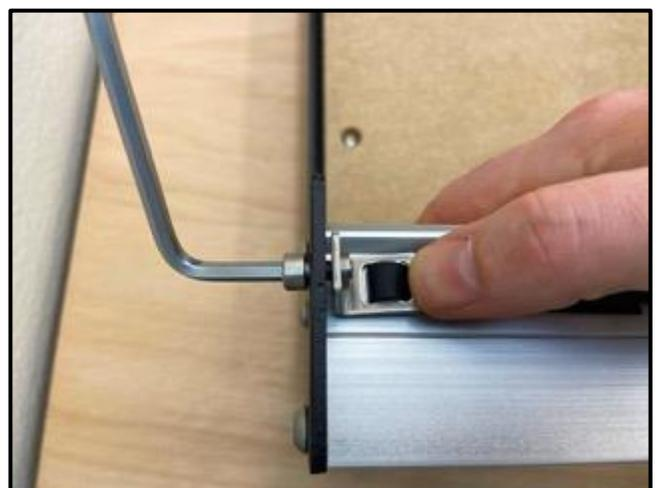

Figure 5-16
11. Use the 4mm hex key and one (1) M5x10mm socket head cap screw to attach the belt clip to the rear endplate. Insert the screw from the **BACK-SIDE** and tighten. Do not over tighten as this could bend the Y1-motor pulley. See *Figure 5-16*.